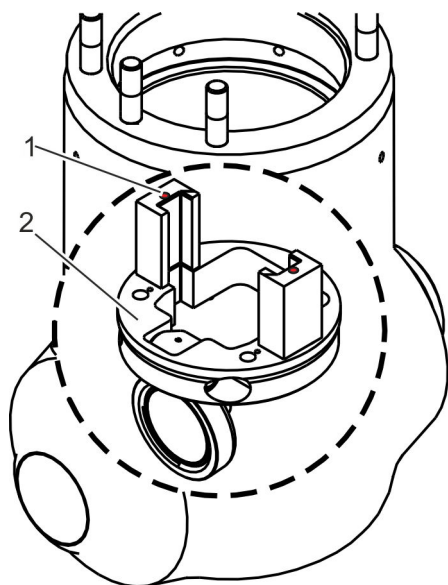

Fig. 52: Phantom view of the body:
3. → Screw the ring bolts into the two boreholes (Fig. 52/1) of the guides on the retaining ring (Fig. 52/2).
Carefully lift the retaining ring (Fig. 52/2) including the swing check plate up and out of the body.
6. → Set down the retaining ring (Fig. 52/2) including the swing check plate outside of the body.
9. → Use the ring bolts and hoist to carefully lift the retaining ring (Fig. 52/2) including the swing check plate into the body.